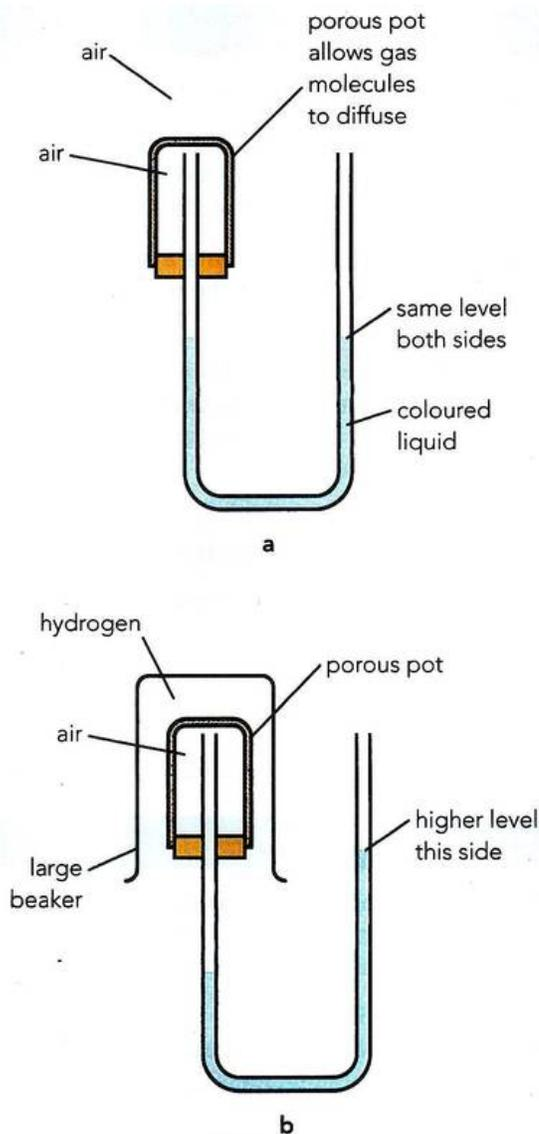

Figure 1.23: Gas diffusion through a porous pot **a:** with air inside and outside the pot, **b:** with hydrogen outside, air inside, the pot.
- 10 Experiments comparing the rate of diffusion of different gases can be done using the apparatus shown in Figure 1.23.
Explain why the levels of liquid change when hydrogen is placed *outside* the porous pot cylinder (Figure 1.23 b).